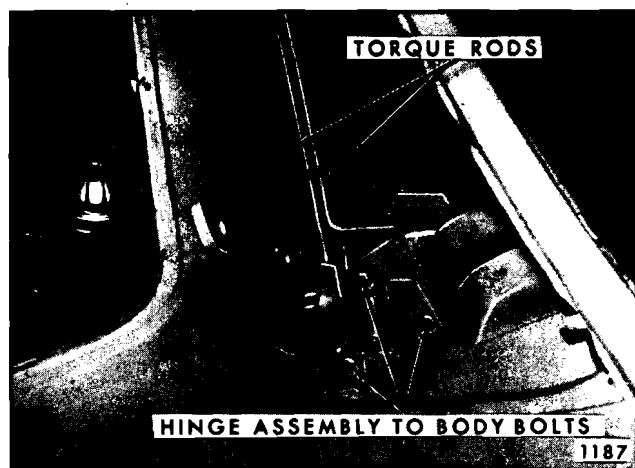

Fig. 5-25—Front Compartment Lid Hinge Removal
1. The front compartment lid may be adjusted forward or rearward and side to side in body opening by loosening hinge to upper shroud attaching bolts at each hinge. Adjust hinge as required and secure bolts (See Fig. 5-25).